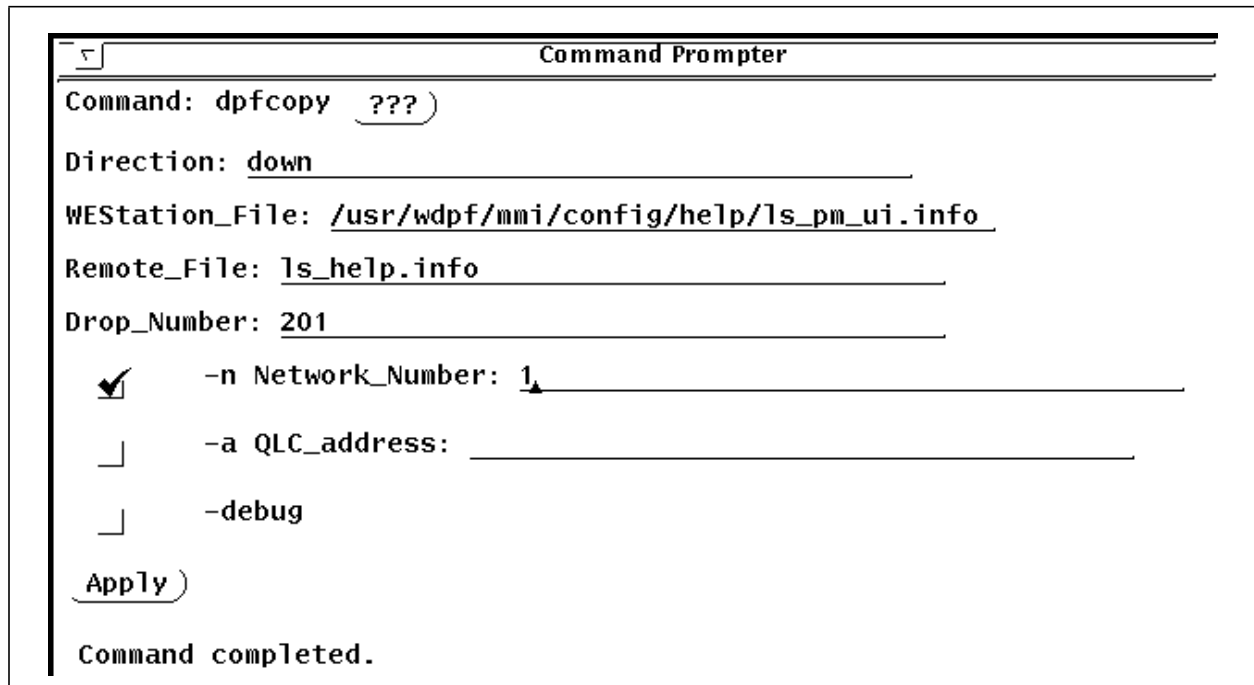

Figure 3-9. Command Prompter Window
1. Select the **DPFCOPY** button from the Standard Engineers' Menu as shown in Figure 3-1. A Command Prompter window will display as shown in Figure 3-9.